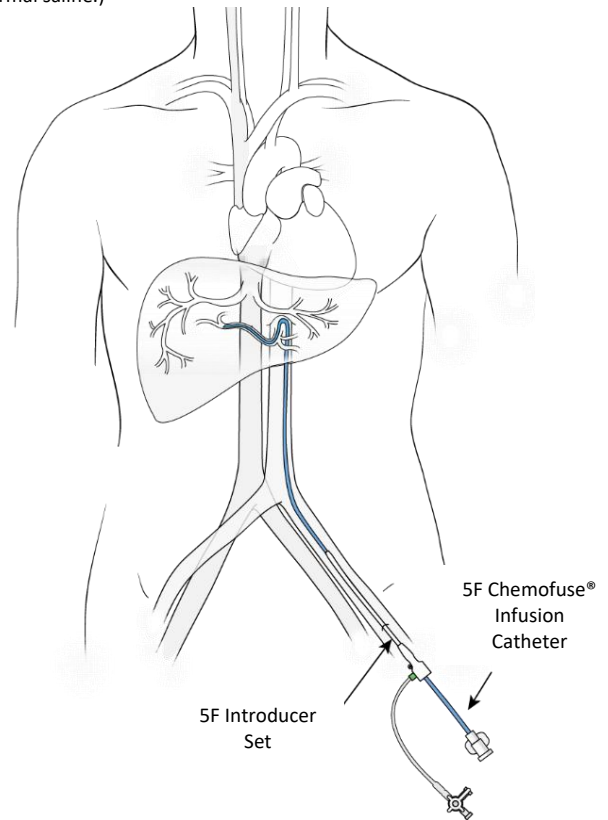

Figure 25
- (a) Introduce the 5F Chemofuse® catheter through the sheath and manipulate it over a guidewire into the proper hepatic artery, see Figure 25. At the discretion of the Interventional Radiologist, a microcatheter may be coaxially introduced through the 5F catheter for selective catheter tip placement for drug infusion. If a microcatheter is used, attach a rotating hemostatic valve (Touhy-Borst type) to the 5F catheter and insert the microcatheter into the 5F catheter through the valve. Three microcatheters have been qualified by Delcath for use with the CHEMOSAT® Hepatic Delivery System. Select one of the three microcatheters qualified (see Description of System Components (pg. 6).